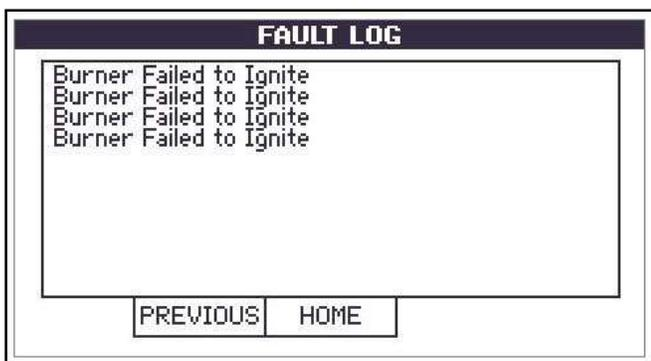

Figure 127
- Check the Reporter for any faults (see Figure 127).